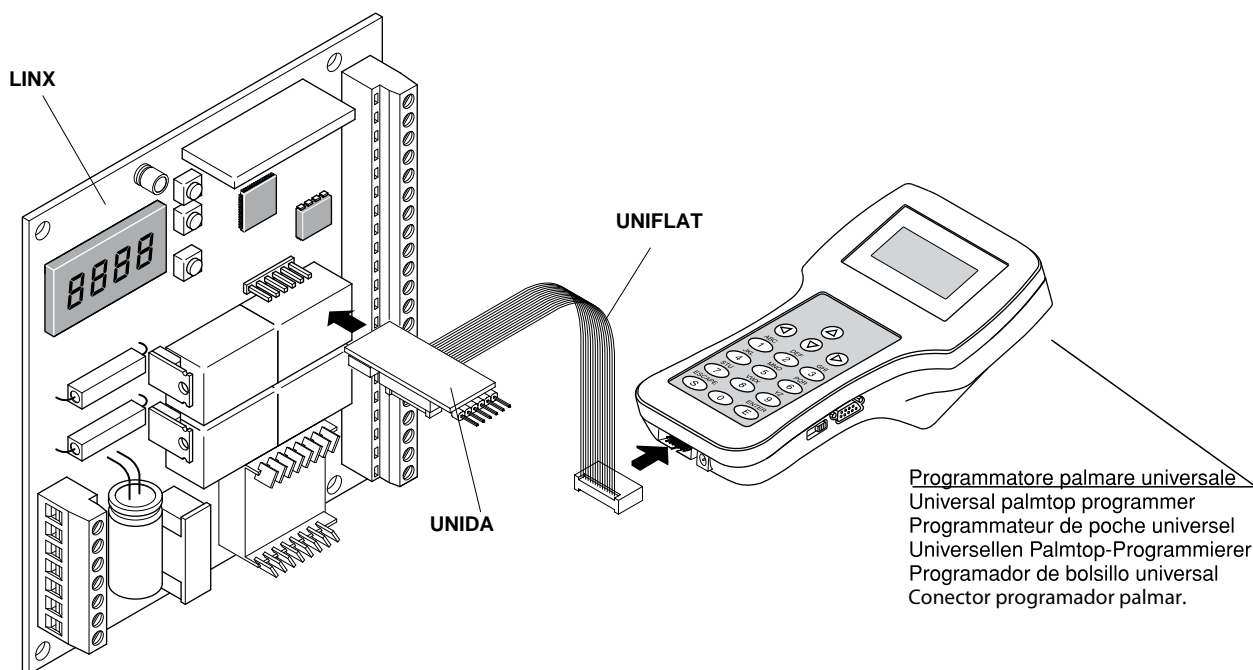

Fig. 19
17) EMERGENCY MANOEUVRE (Fig.19)
- 1) Insert the release key and turn it clockwise (Fig.19 ref."1").
- 2) Move lever "S" until the lock is released (Fig.19 ref."2").
- 3) Keep the lever in the release position by turning the key clockwise (Fig.19 ref."3").